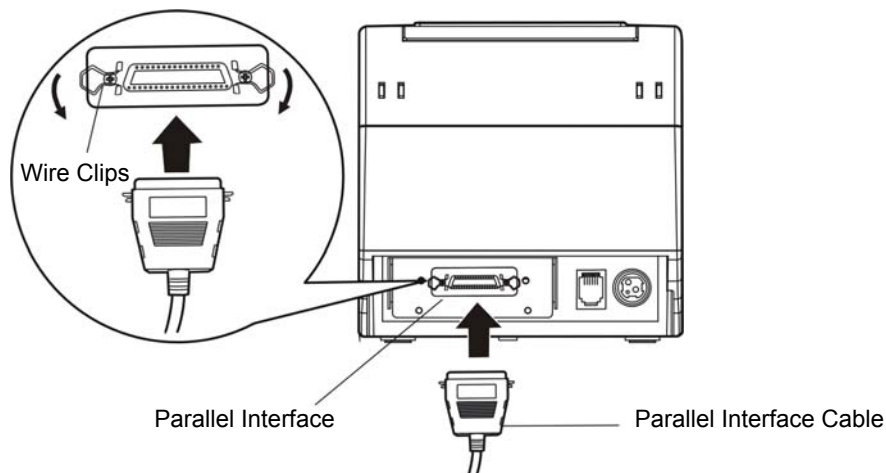

Figure 2-3 Connecting the parallel interface cable
1. Make sure the computer and the printer are both turned off, connect the parallel interface cable to the connector of the printer, Squeeze the wire clips on both sides and make the cable fixed. As shown in Figure 2-3.